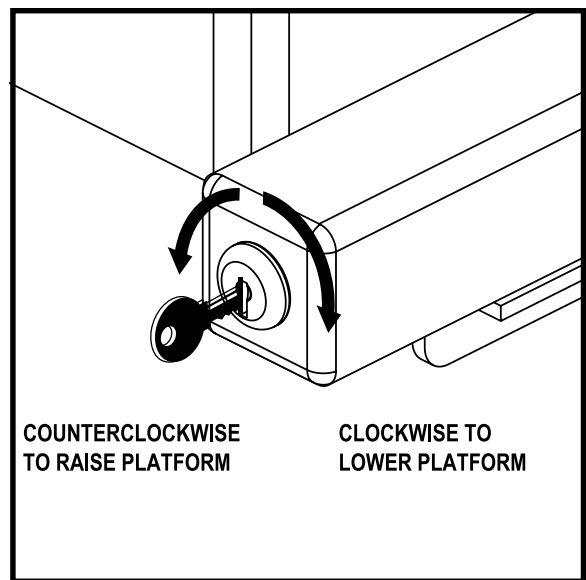

Figure 6. Key Switch Operation
2. Turn and hold the key clockwise to lower the lift platform. See figure 6. Release the key as soon as the lift platform touches the ground.
6. Turn and hold the key counterclockwise to raise the lift. See figure 6. Continue to raise the lift until the motor stops, then release the key.